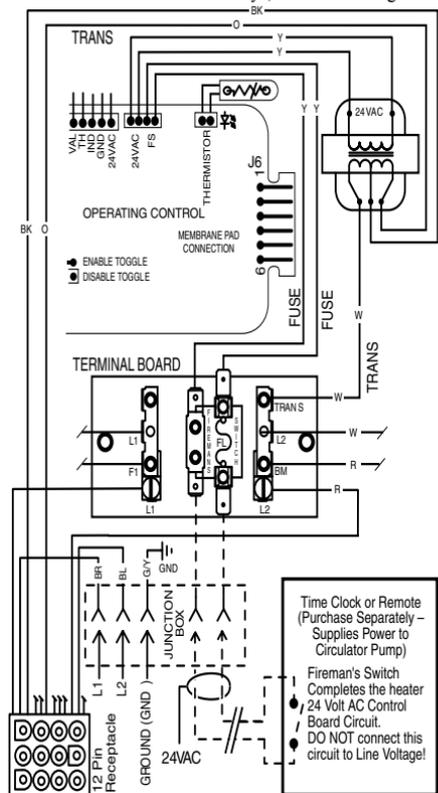

Figure 32.
1. Connect wires between the control board terminals on the heater and the external relays, as shown in Figure 32 below. Use at least 2 relays per heater, to allow for an "OFF" setting" on each heater mode. Select relays that can handle logic level switching. **DO NOT** apply line voltage to control board terminals.